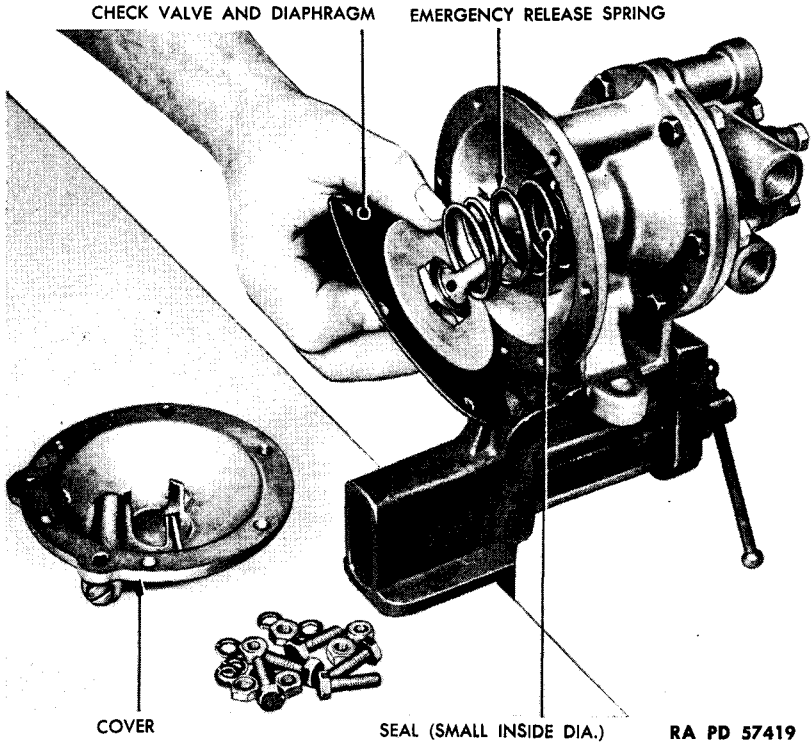

Figure 7 – Removing Check Valve and Diaphragm Assembly
a. Remove Check Valve and Diaphragm Assembly (fig. 7). With the valve held firmly in vise, remove six cap screws, six nuts, and six lock washers holding cover to body. Pry cover off emergency valve body. Lift out check valve and diaphragm assembly and emer-
c. **Install Check Valve and Diaphragm Assembly** (figs. 7 and 11). Place emergency release spring between the three posts in emergency valve body. Place check valve assembly in spring. Place cover over diaphragm. Secure cover to emergency valve body, using six cap screws, lock washers, and nuts.